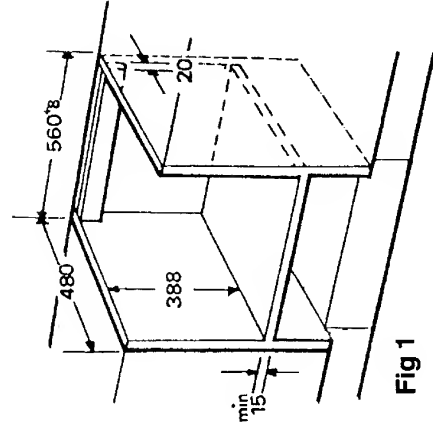
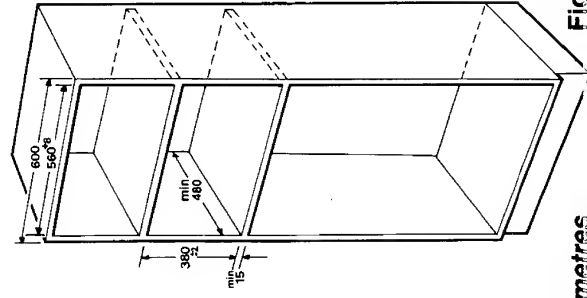

Fig 1
Fig 2
- b. Figures 1 and 2 below, are given for planning guidance only. For full details please refer to the instructions supplied with the 6070B/6070W built in kit.
- c. The Combination Oven can be built under a worktop, Figure 1, or built in at eye level in a tall housing unit, Figure 2.